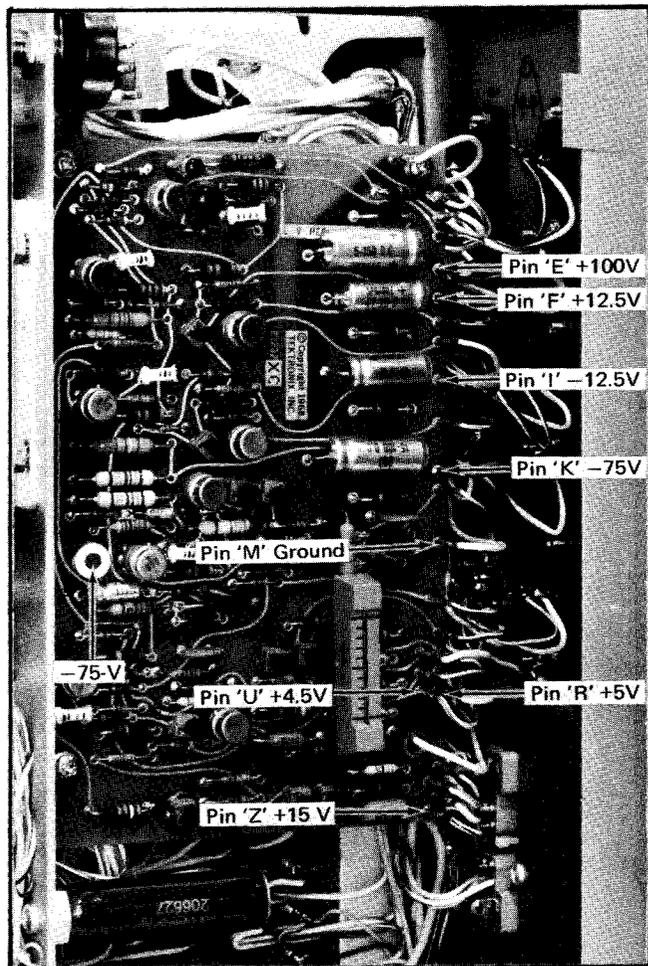

Fig. 5-2. L. V. REGULATOR circuit board: Location of test points and adjustments in steps 1 through 3.
- c. Connect the negative lead of the DC voltmeter to ground, pin M on the L. V. REGULATOR board, (See Fig. 5-2). Connect the positive lead to the -75 volt supply, pin K. Be sure the polarity of the DC voltmeter is set for measuring a negative voltage.
- e. ADJUST—R721, -75-V adjustment (see Fig. 5-2) if the voltage is not correct.